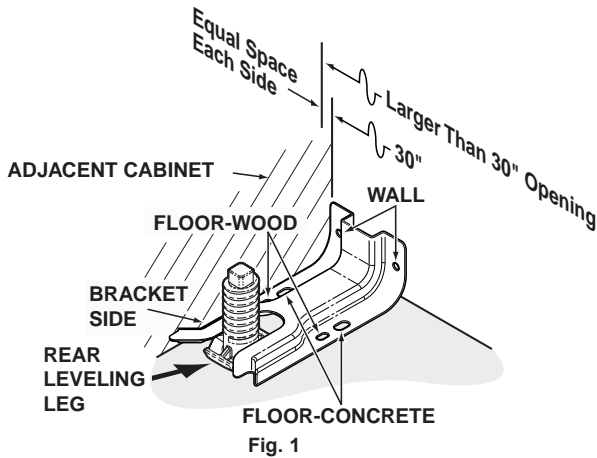

Fig. 1
- Place the bracket as shown in Fig. 1.
- Locate the centers of the four holes identified in Fig. 1 as Floor-Wood and Wall.
- Locate the center of the four holes identified in Fig. 1 as Floor-Concrete and Wall. Drill the recommended size holes in each.